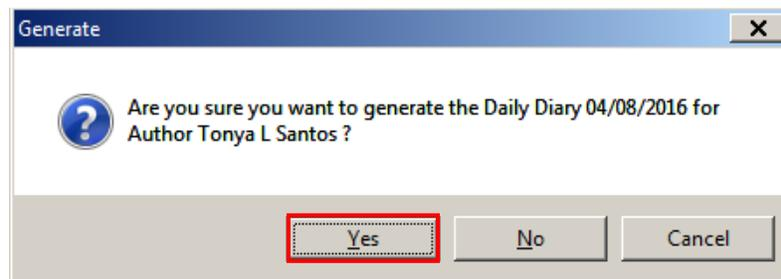

Figure 8-16. Generate Daily Diary Confirmation Window
- Click the **Yes** button on the Generate window (Figure 8-16). You will receive a Generate window for each Daily Diary selected.